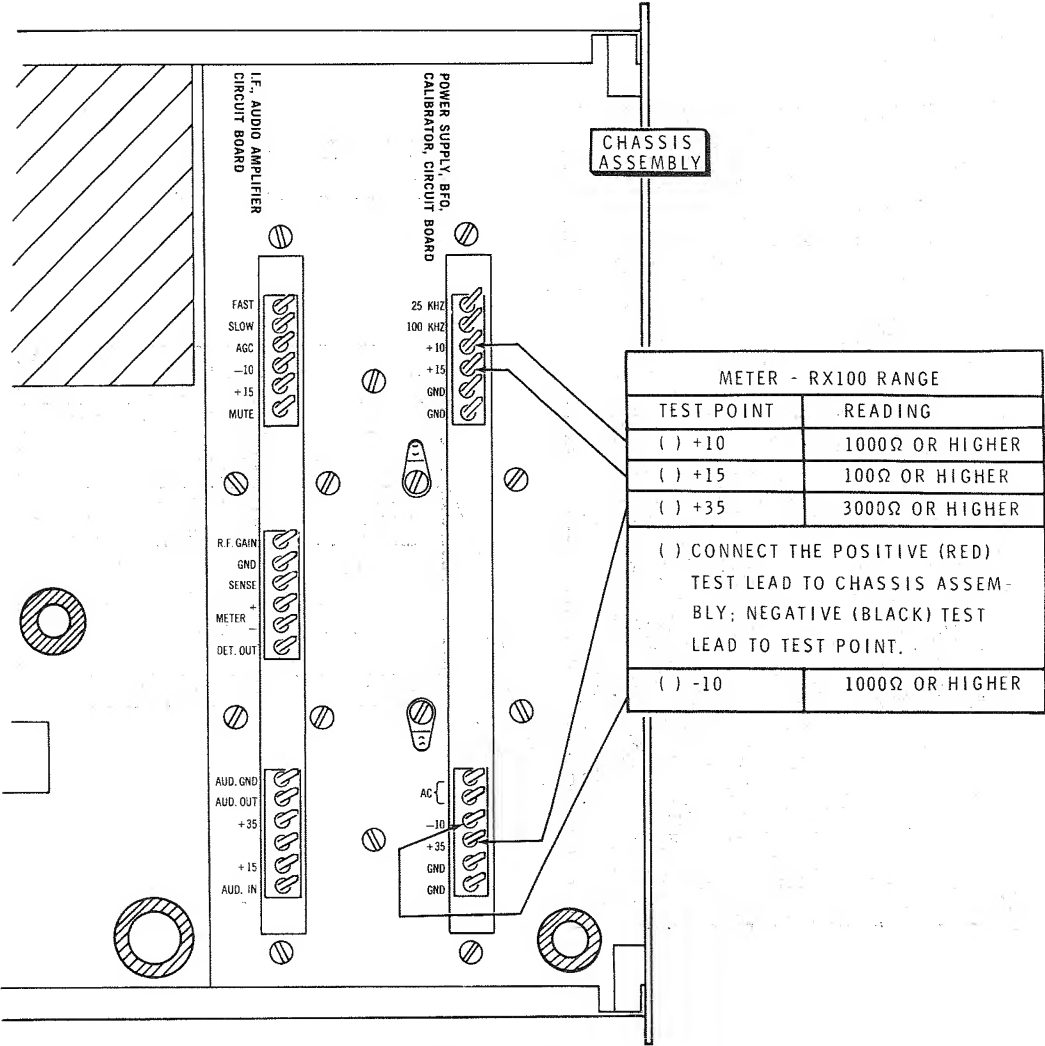

FIGURE 2
- ( ) Position the chassis assembly as shown in Figure 2 (fold-out from this Page).
- ( ) Connect the positive (red) ohmmeter test lead to each test point listed in the chart on Figure 2.